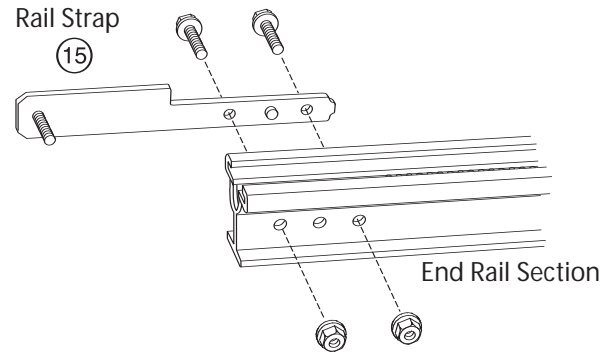

Figure 13 Attach Rail Strap
- A Attach Rail Strap to End Rail Section with 2 (1/4"-20) Hex Head Bolts and 2 (1/4"-20) Serrated Flange Hex Nuts (Figure 13).